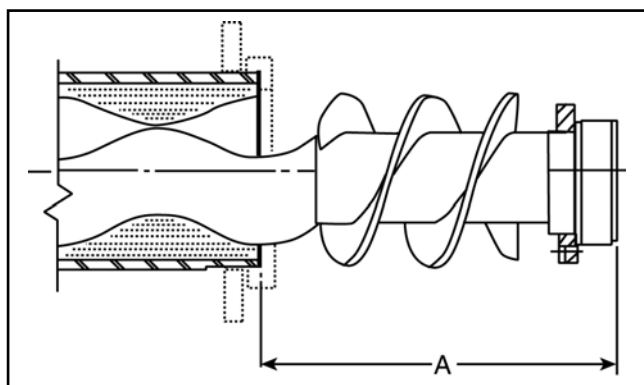

Figure 4-5. Rotor Installation
1. Slide stator clamp rings (36) on both ends of the stator (30) and secure in position with retaining rings (35).
2. On F012, G022, H036, H050, and K115 models, place one stator gasket (34) in recess of adapter flange (25A), and fit adapter flange with gasket to end of stator.
3. Coat the rotor (40) contour with waterless hand cleaner, glycol, or other lubricant compatible with the stator elastomer. Insert rotor into stator so that rotor head is at the specified distance from the end of the stator (Dimension "A," Figure 4-5). On F012, G022, H036, and K115 models, be sure the rotor is inserted in the end of the stator fitted with the adapter flange (25A) and gasket (34).